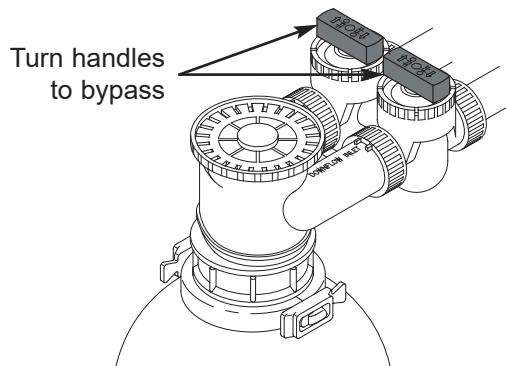

FIG. 6
1. Bypass the system by turning both bypass handles perpendicular to the flow of water (See Fig. 6).